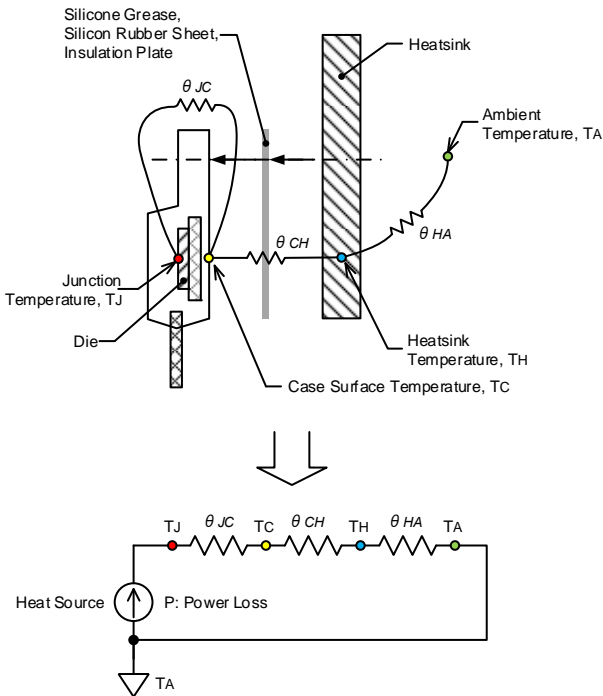

Figure 3 Thermal Equivalent Circuit Model
A heatsink mounted on an IC reduces thermal resistance. It achieves a lower junction temperature, which translates into efficient use of the IC. Figure 3 shows a thermal equivalent circuit model with a heatsink.
Below is the calculation of thermal resistance θ_{HA} required for the equivalent circuit model shown in Figure 3. Equations (6) and (7) are led for the equivalent circuit.